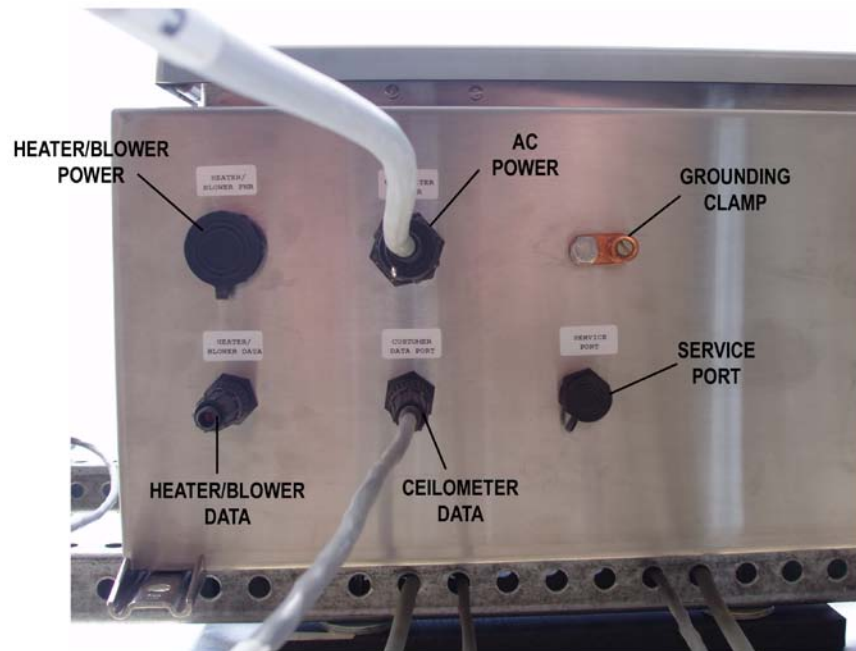

Figure 45. Ceilometer Connectors
2. Connect the power cord's circular connector to the INPUT POWER connector on the underside of the ceilometer (see Figure 45).
1. Connect the data cable's circular connector to the CEILOMETER DATA connector on the underside of the ceilometer (see Figure 45).